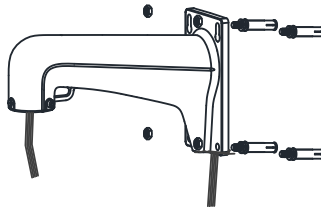

Figure 2-2 Install the Bracket
- The bracket in Figure 2-2 is the recommended bracket for this series of speed dome, and a pendant adapter is required if any other bracket is selected. The dimension of pendant adapter is  $G1\frac{1}{2}$ .